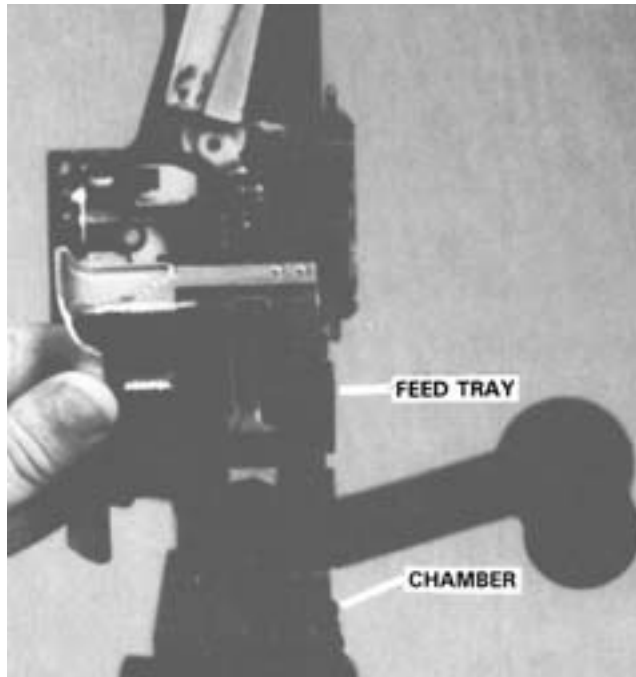

Figure 3-60. Inspecting the Chamber.
a. Unloading. Whether or not the belt is expended, unloading procedures are essentially the same: all ammunition must be removed, and the chamber must be checked. The gunner pulls the bolt to the rear (in case all rounds in the belt have been expended), places the weapon on *S*, raises the cover, and the team leader clears the feedtray of ammunition and links. The gunner inspects the chamber by lifting the feedtray (see figure 3-60). If the chamber is clear, unloading is completed.